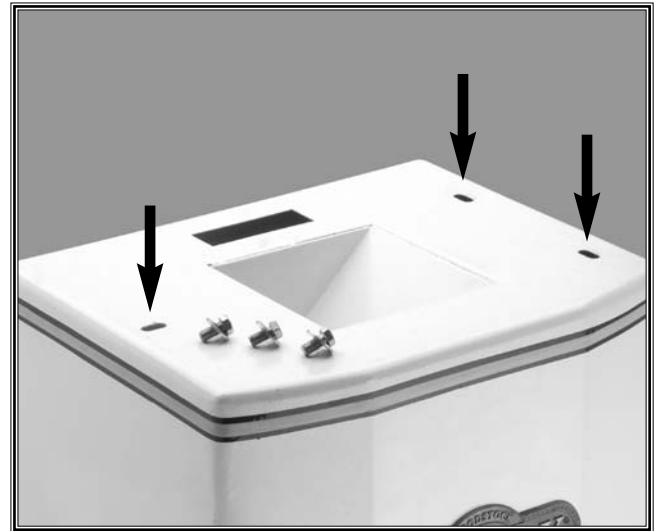

Figure 10. Secure table to stand at these locations.
3. Align the mounting holes (shown in Figure 10) on the stand to the jointer assembly, and secure the jointer assembly with the (3) $\frac{3}{8}$ " - 16 x $\frac{3}{4}$ " hex bolts and lock washers from the hardware bag.